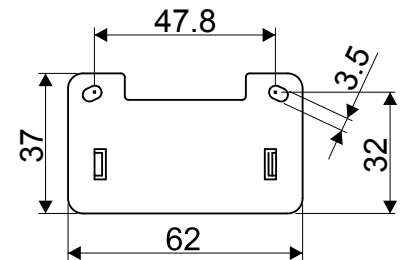

Fig. 3
3. Attach alarm indicator base plate (Fig. 3) to door frame with two screws,  $\varnothing$  max. 3 mm.